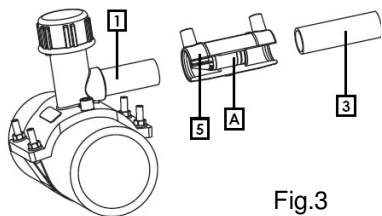

Fig.3
1. **Connect the Electrofusion Coupler [5] to the service line (Fig.3) (follow RACC MOD4 VER9 EF). CHECK THE ARROW ON THE SIDE FOR FLOW DIRECTION**